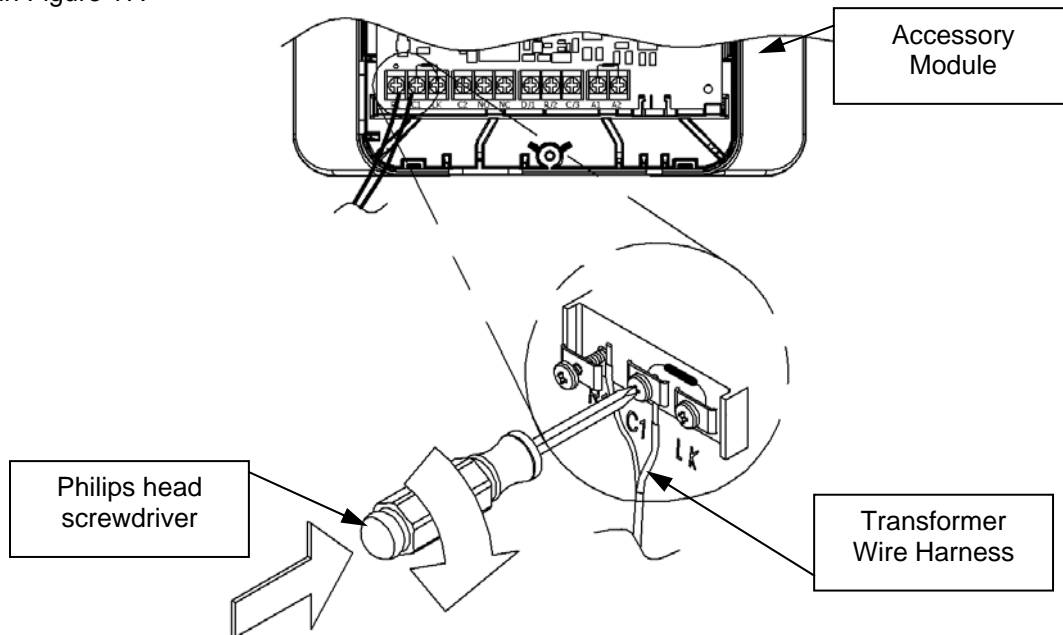

Figure 17
Step 17: Tighten both screws, "R1" and "C1," while holding the Transformer wire harness in place, as shown in Figure 17.